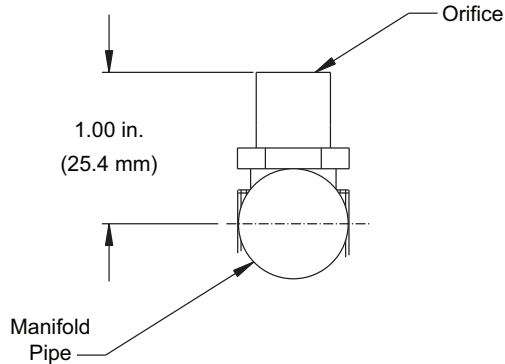

Fig. 49 — Orifice Projection
Refer to Fig. 49 for maximum projection dimension for orifice face to manifold tube.
5. If factory orifice has been removed, check that each orifice is tight at its threads into the manifold pipe and that orifice projection does not exceed maximum value. (See Fig. 49.)